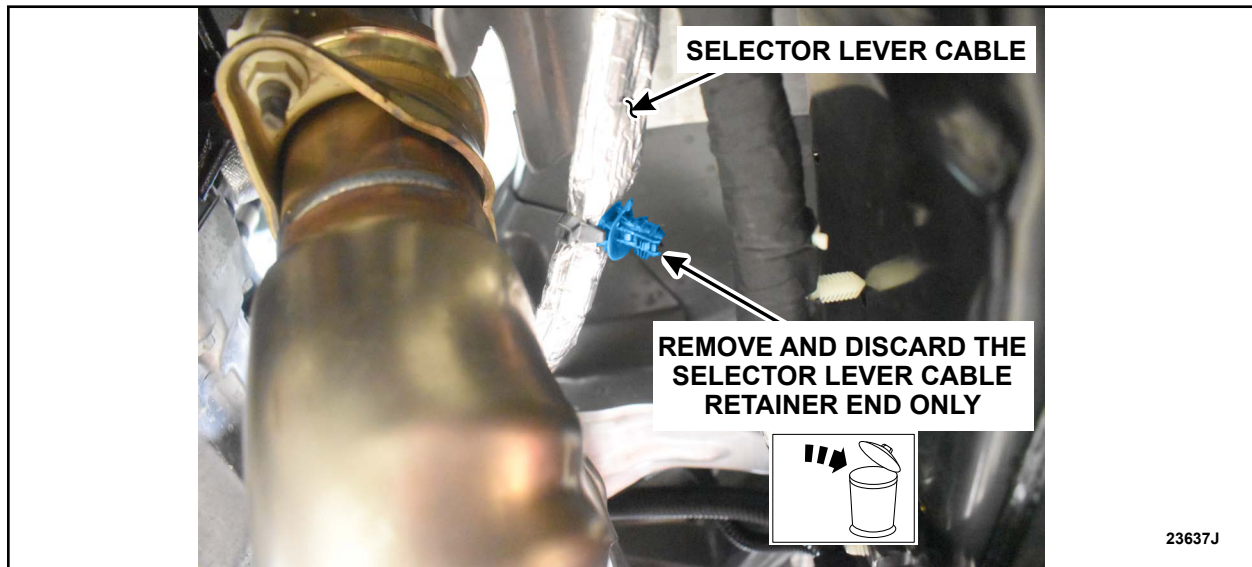

**FIGURE 7**
5. Wrap Coroplast® tape around the harness, including the frame rail clips that were removed in the previous steps, on both sides of the part number tag as shown in Figure 7.